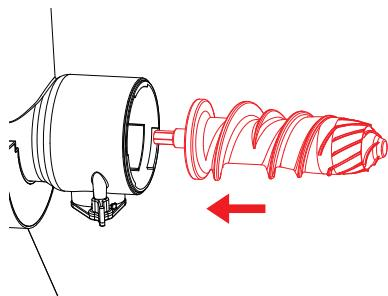

Рис. 3
2. Place the screw (5) inside the juice extractor head until clicking. (fig. 3).